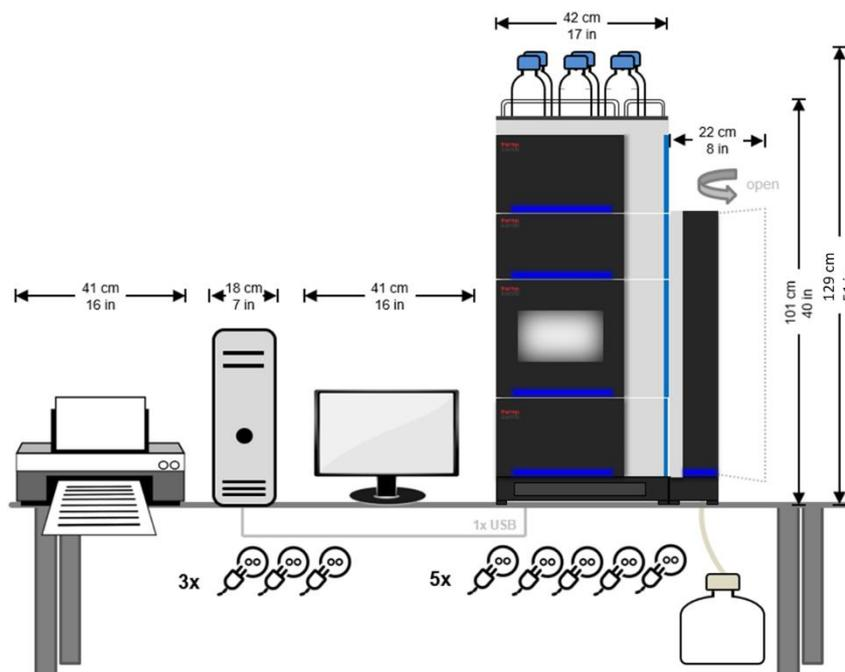

Figure 4: Recommended layout for a stand-alone Vanquish Duo (U)HPLC System with charged aerosol detector, optical detector, and data system
Figure 4 shows the recommended layout for a stand-alone Vanquish Duo (U)HPLC System with Vanquish charged aerosol detector, optical detector, column compartment, autosampler, pump, and a system base with solvent rack. To add a Charger module, an additional width of 44 cm (18 in.) is required. Allow at least 160 cm (63 in.) for the installation of the shown setup, including the data system and printer.